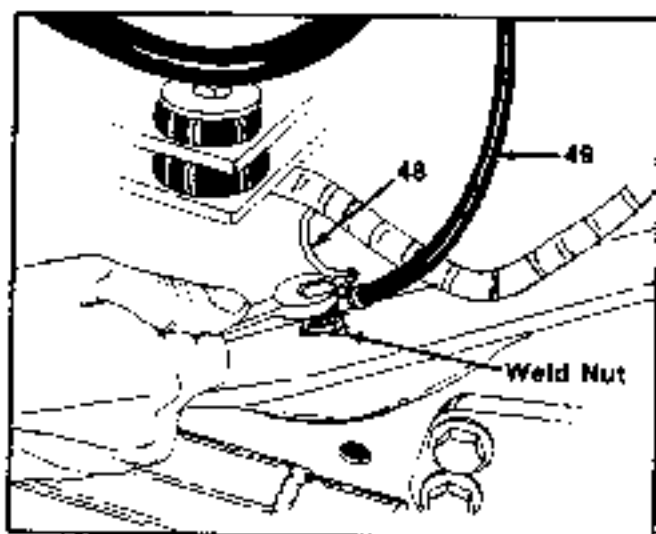

FIGURE 25.
28. Remove the battery-to-ground cable and small green wire from left hand side of tractor frame. See figure 25.
Bolt and star washer at weld nut on frame must make a good ground (contact) upon reassembly. See figure 25.
The top lever (engine stop lever) has a swivel connection, and the attaching nut is at the top of the lever. The lower lever (engine speed control lever) is wire connected and the attaching nut is at the bottom of the lever. See figure 25.